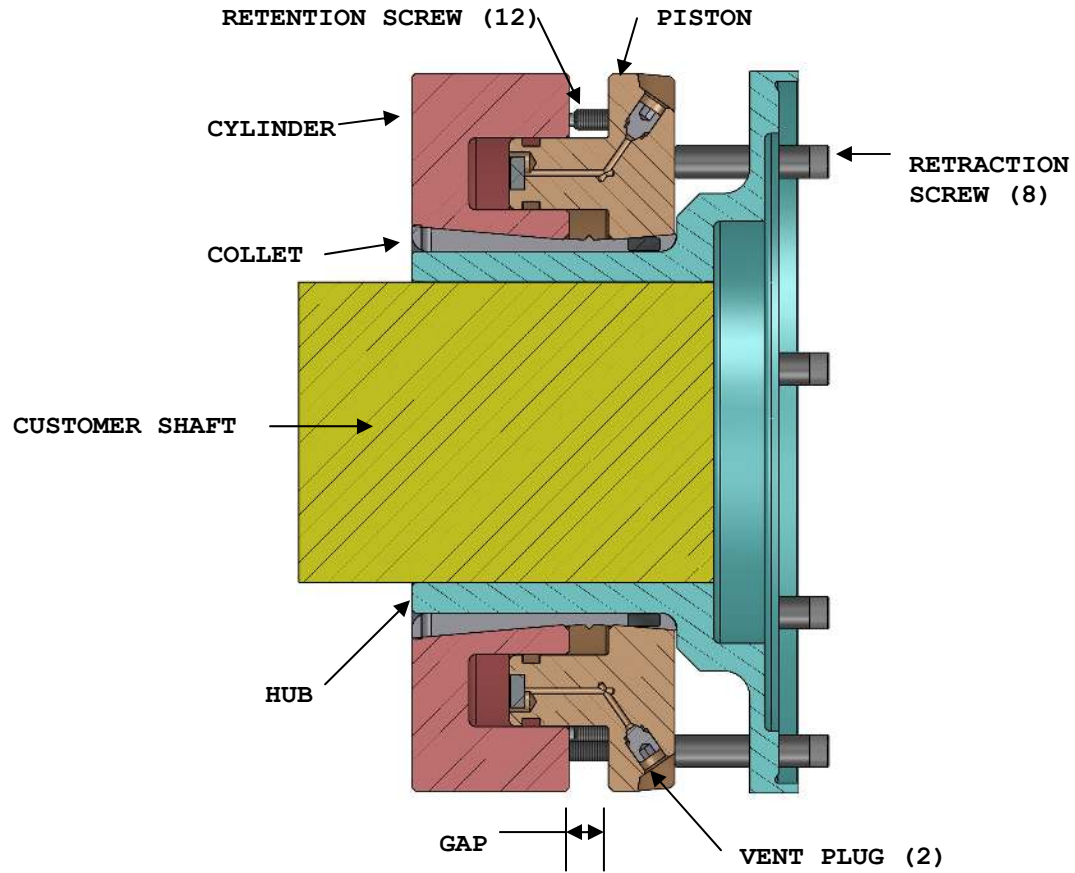
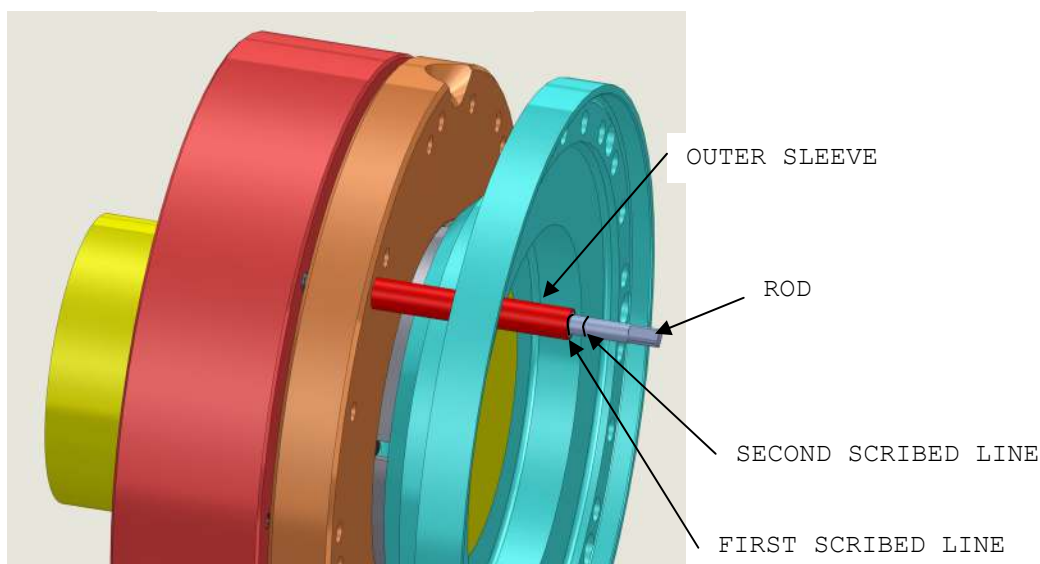

FIGURE 1a - HTC/Hub Assembly Cross Section
Figure 5a - Setting Initial Grip Position
The Hydraulic Torque Coupler (HTC) connects the hub to the shaft. It accomplishes this by squeezing the hub OD with very high pressure. This pressure forces the hub to squeeze down onto the shaft producing a tight fit. Squeeze is produced when hydraulic pressure is applied. This separates the piston and cylinder of the HTC. As these rings separate, they ride up the slopes of the collet generating interference. Figure 1a shows the hub mounted on the shaft using an HTC. Prior to assembly, the hub and shaft have been machined to produce a keyless, cylindrical slip fit.
2.3.1 Remove the vent plugs (see Figure 1a). Tighten the retraction screws to 2-5 ft-lbs. Be sure the gap is closed (see Figure 2a).
2.4.11 The proper setting of the HTC is accomplished by the separation or gap between the two halves of the clamp (see Figure 1a). Special Gap Tool (Riverhawk PN 7500596) has been provided to facilitate this setting. Be sure you maintain the First Grip Position from the previous step until the tool is in place. Thread the gap tool into one of the retraction screw holes until the outer sleeve aligns with the first scribe line on the rod (see Figure 5a). The tool is spring loaded so you will need to push and turn in order to start the thread.
2.4.18 Place vent plugs 2002429 into both hydraulic ports after all oil is drained (see Figure 1a).